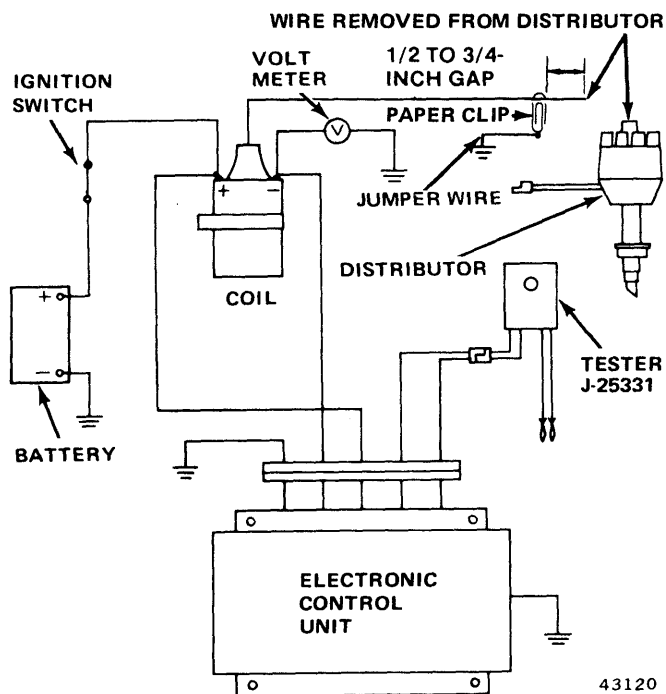

Fig. 3-53 Voltmeter Connected to Coil Negative Terminal
(12) Connect voltmeter between coil negative (-) terminal and ground (fig. 3-53). With ignition switch ON, voltage should read 5 to 8 volts. A reading under 5 volts or over 8 volts indicates a faulty coil which must be replaced.